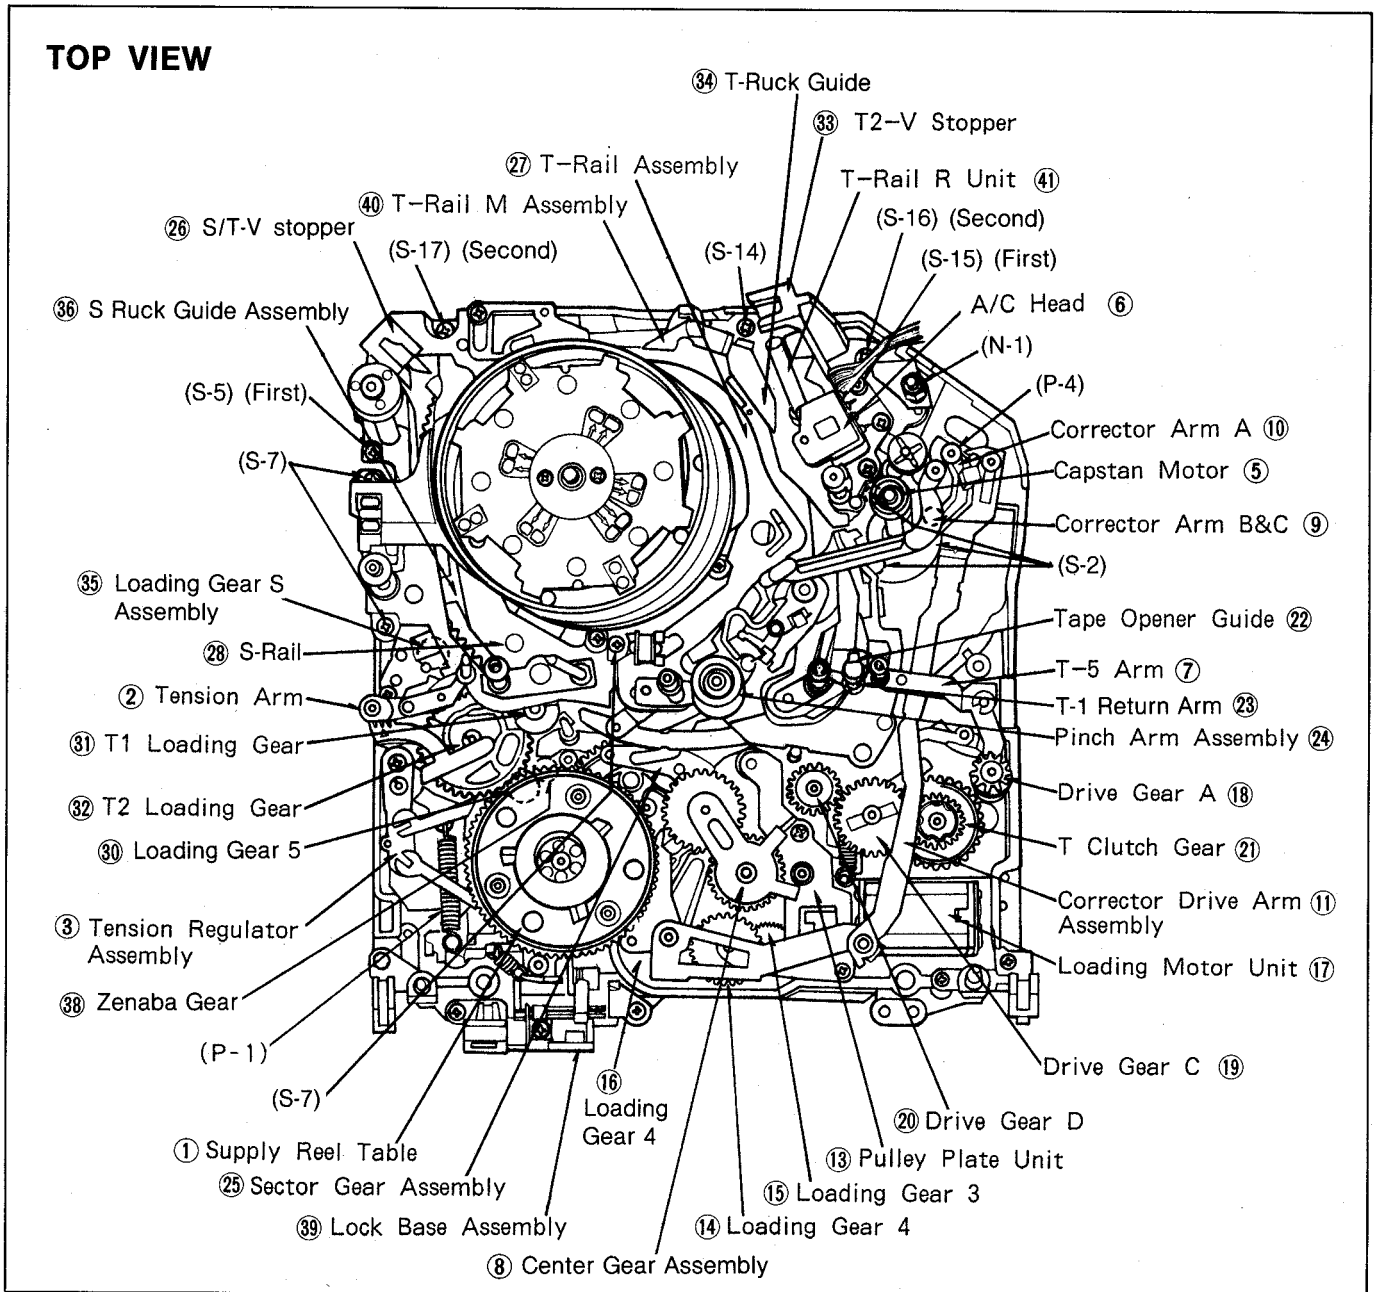

Fig. M1
10) Remove centre gear assembly. See Fig. M1 & 7.
- 28) Remove S/T-V stopper unit. See fig M1
- 36) Remove capstan drive motor. See fig. M1.
- 44) Remove T-rail M assembly. See fig. M1.
- 1) Reinstall T2-V stopper. Tighten screws as shown in fig M1.